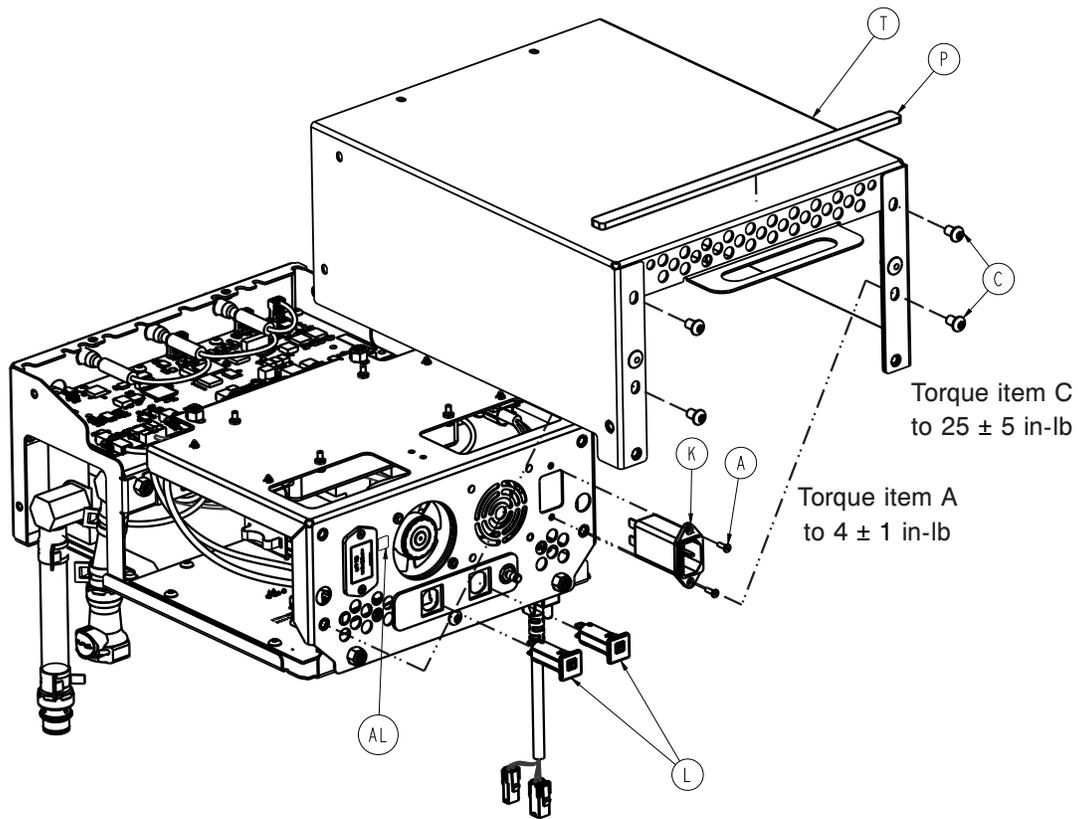

Figure 29 – Back of the control assembly
7. Using a T27 Torx driver, remove the four screws (C) from the back cover of the control assembly. Pull the cover to the back of the product. Set the cover aside (Figure 29). Save the screws.